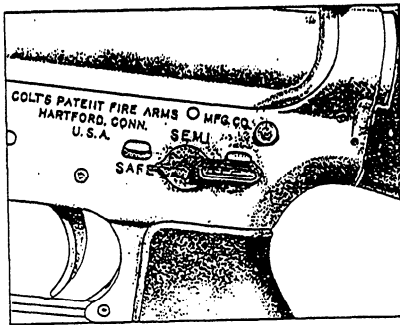

Figure 3-5.—Selector lever pointing to SAFE.
1. Attempt to point the selector lever toward SAFE, the position shown in figure 3-5. If the weapon is not cocked, the selector lever cannot be pointed toward SAFE. If that is the case, do not cock the weapon at this time; instead, go on to the next step in clearing.